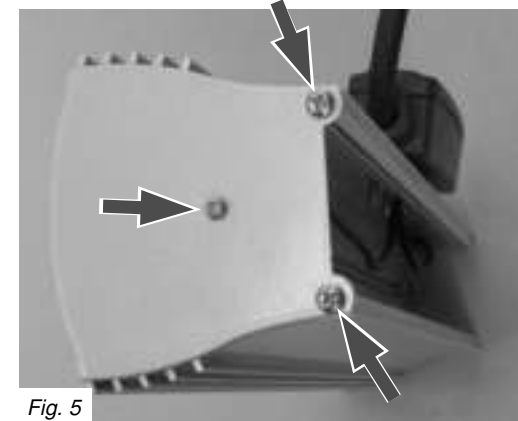

Fig. 5
5. Stand the heater on its open end and remove the other end cap (Fig. 5).